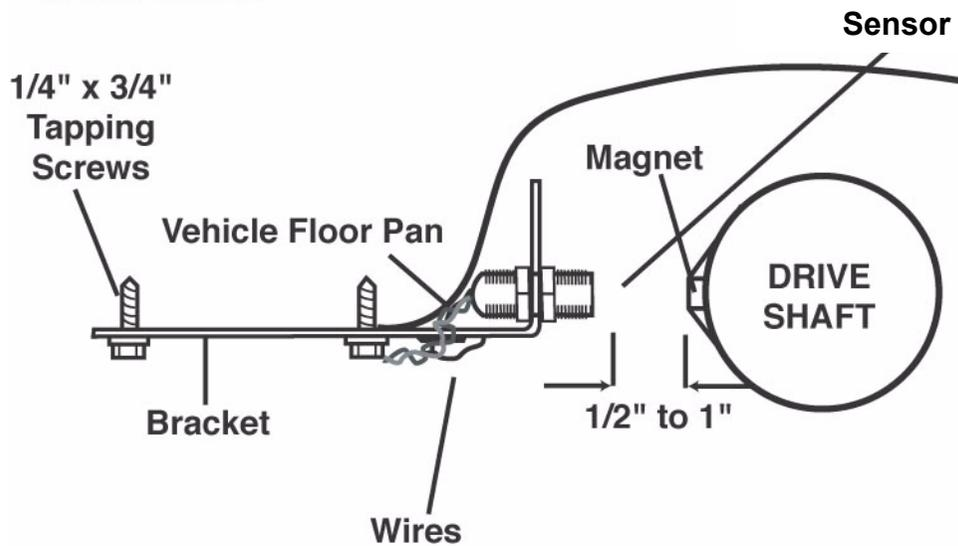

Figure 4: Typical Rear-Wheel-Drive Installation
3. See *Figure 4* on *page 12*. Locate a spot on the drive shaft within 12 inches of the front universal joint, but away from exhaust components or moving parts. The sensor must be within ONE INCH of the magnet to reliably detect the magnetic field.